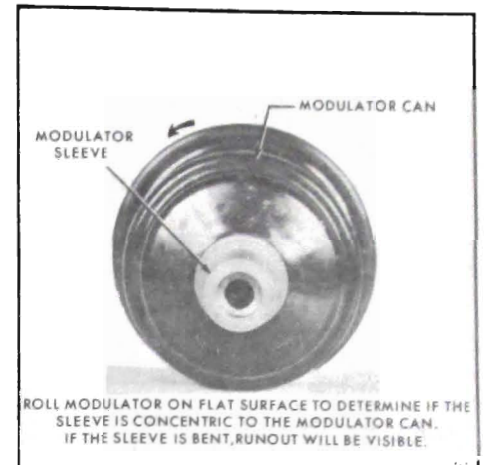

Figure 75-316 - Checking Modulator Sleeve Alignment
2. Check modulator valve sleeve alignment. Roll modulator on a flat surface to determine if the sleeve is concentric to the modulator can. See Figure 75-316. If the sleeve is bent, runout will be visible, and modulator must be replaced.